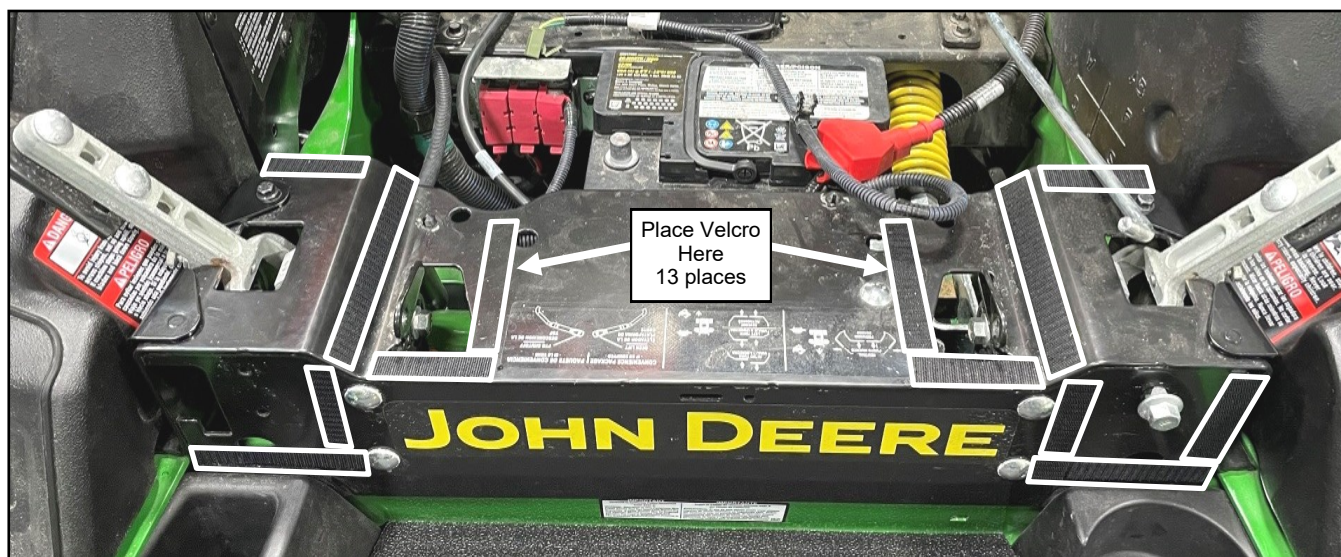

Fig. 1.23 (Install Velcro)
- 1.23 Install (13) pieces of Velcro as shown in Figure 1.23.